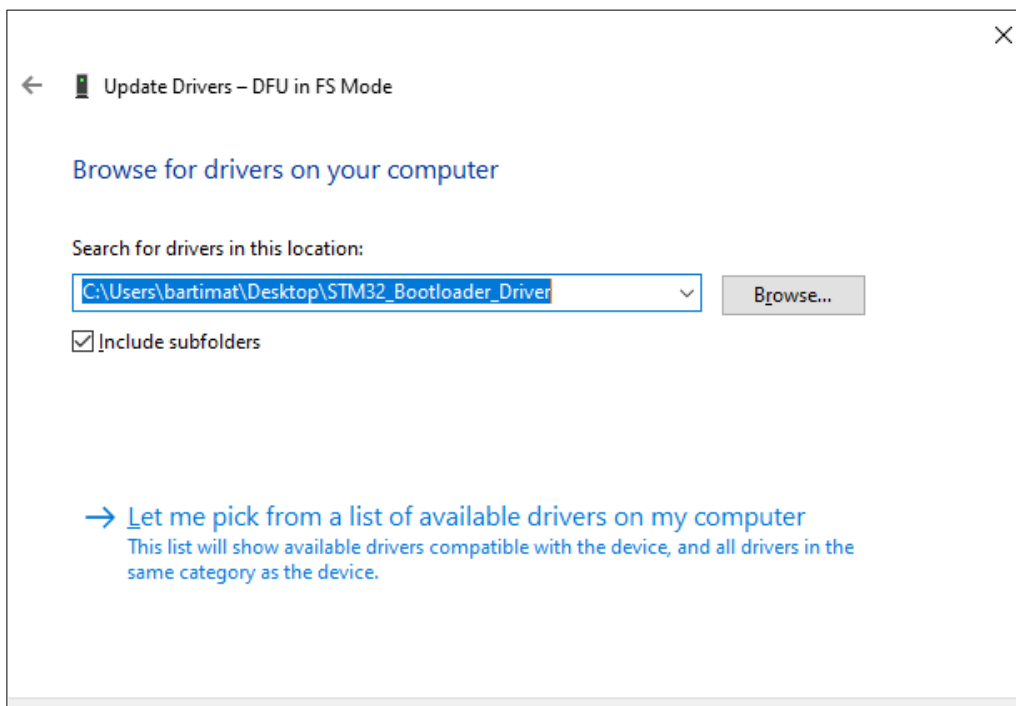

Figure 15: Locate the provided "STM32\_Bootloader\_Driver" directory.
- 4 Browse for the "STM32\_Bootloader\_Driver" directory (have the option "Include sub-folders" checked (see Fig. 15) and press Next).